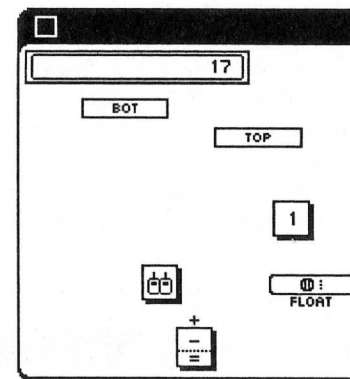

Figure 1-17 The Calcshell after Auto-Resizing
- ❖ **Auto-Resize the Calc Shell.** Pull down this item from the Calculator menu to shrink or expand the Calcshell to the smallest size that will enclose every part in the Work window. Auto-resizing transformed the calculator shown in Figure 1-16 to that is shown below in Figure 1-17.